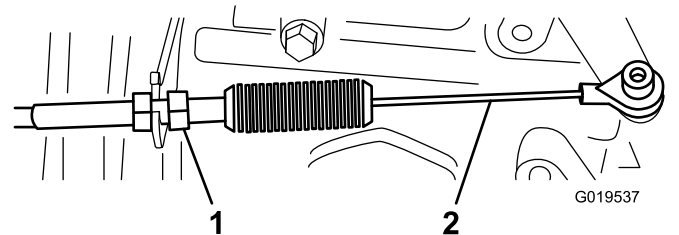
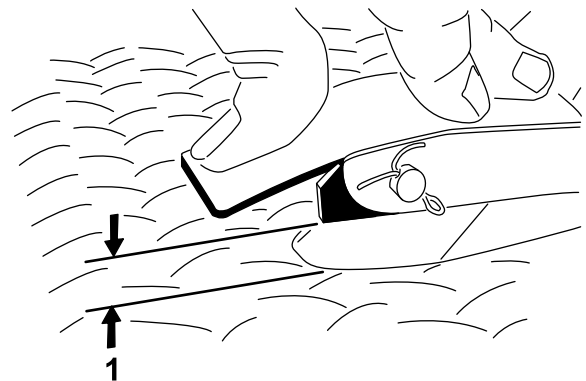

Figure 66
Figure 67
2. Adjust the ball joint on the accelerator cable (Figure 66) to allow 2.54 to 6.35 mm (0.100 to 0.250 inch) of clearance between the accelerator pedal arm and the top of the diamond tread floor plate (Figure 67), when you apply 11.3 kg (25 lb) of force to the center of the pedal.
3. Tighten the locknut (Figure 66).